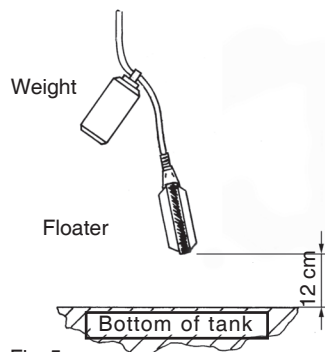

Fig. 5
**The cable of the float switch has to be fixed in the turret of the storage tank. The distance between the lower side of the float switch and bottom of tank has to be 12cm, see fig.5.**
- Adjust the distance between the lower side of float switch and the bottom of the tank to **12 cm**, see fig. 5.